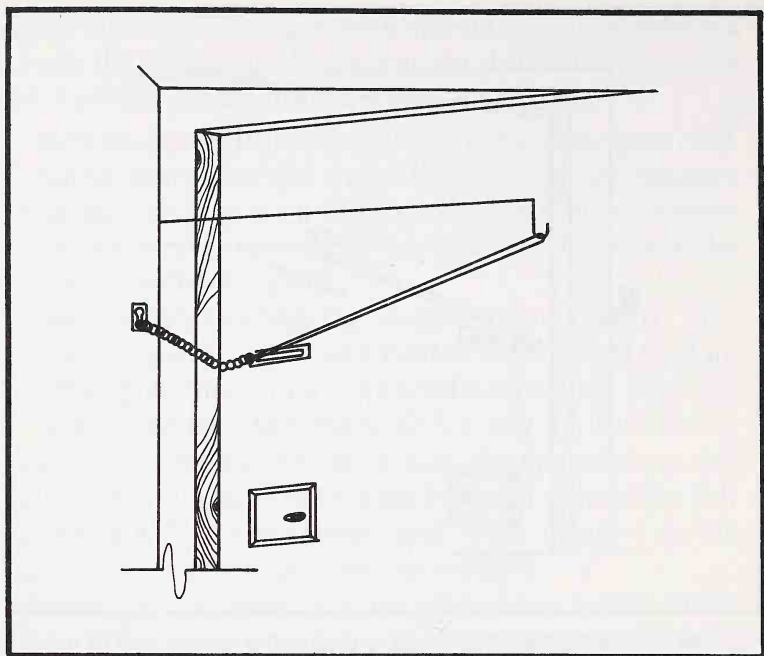

Fig. 23-8. A variation on the rubberband technique.
4. If the door's surface will not receive a tack, use a bent coathanger to stretch the rubberband (Fig. 23-8). Make sure the coathanger is long enough and bent properly so you can close the door as far as possible.